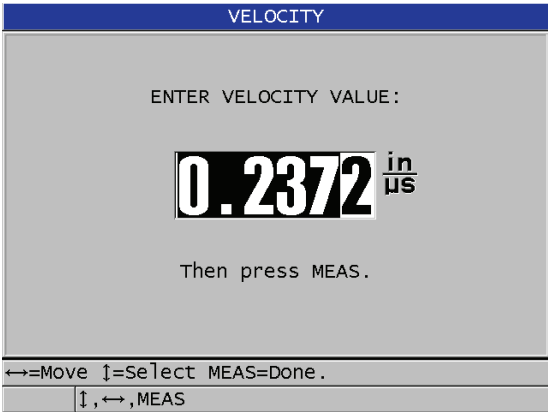

Figure 5-7 Entering a known material sound velocity
2. In the **VELOCITY** screen (see Figure 5-7 on page 66), use the arrow keys to edit the velocity to the known value.